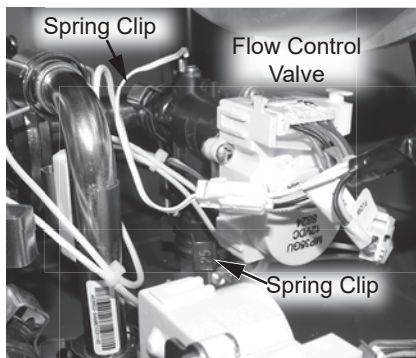

Figure 164 - Flow control valve location
**19** Locate the flow control valve at the bottom right side of the water heater. See Figure 164.
**20** Remove the two (2) spring clips (size 25) securing the flow control valve to the piping system. Place spring clips aside in a safe place for reinstallation. Remove the flow control valve from pipe connections and set aside in the water heater cabinet. See Figure 164.